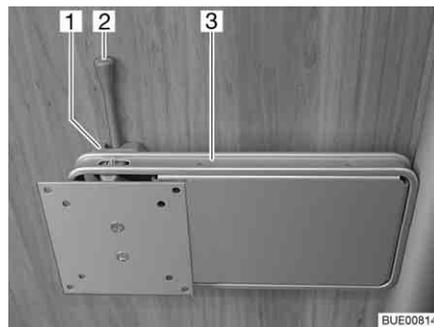

Fig. 52 Holder on the column
- Push the release lever (Fig. 52,2) to the side and turn the holder (Fig. 52,3) with the flat screen to the desired position.
- Turn flat screen back until the holder (Fig. 52,3) engages in the lock (Fig. 52,1).